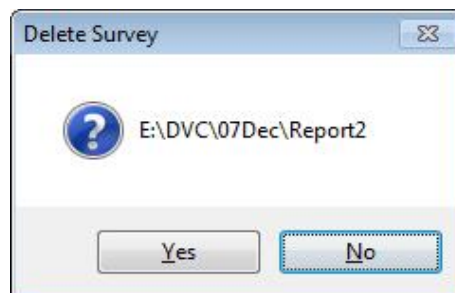

Figure 3.22 Deleting the imported report
8. FSM will give you the option to delete the report you have just imported from the Memory Card (see Figure 3.22). Press Yes to delete the report or No to continue without deleting it.